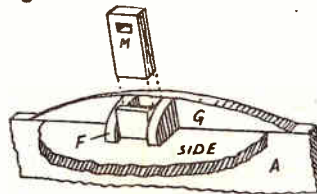

Fig. 2—The winning post socket
To make the top of the box circular, four segments of wood are glued on in line with the top, and halfway along each edge. They are supported beneath by a pair of brackets (F) set centrally but about $\frac{1}{4}$ in. apart. They can be seen in the picture of the finished game. On one side, however, an additional piece is provided to form a stand for the winning post. Between these two angle pieces (F) is the spacing block glued $\frac{1}{8}$ in. below the underside of the top (part G). This is shown in the underview at Fig. 2.